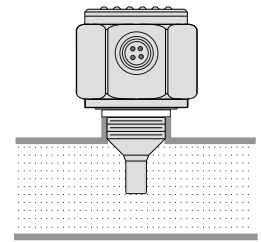

Fig. 2
- (2) Please assure that there is no air bubble in the tube to achieve reliable alarm action. (See Fig. 2)